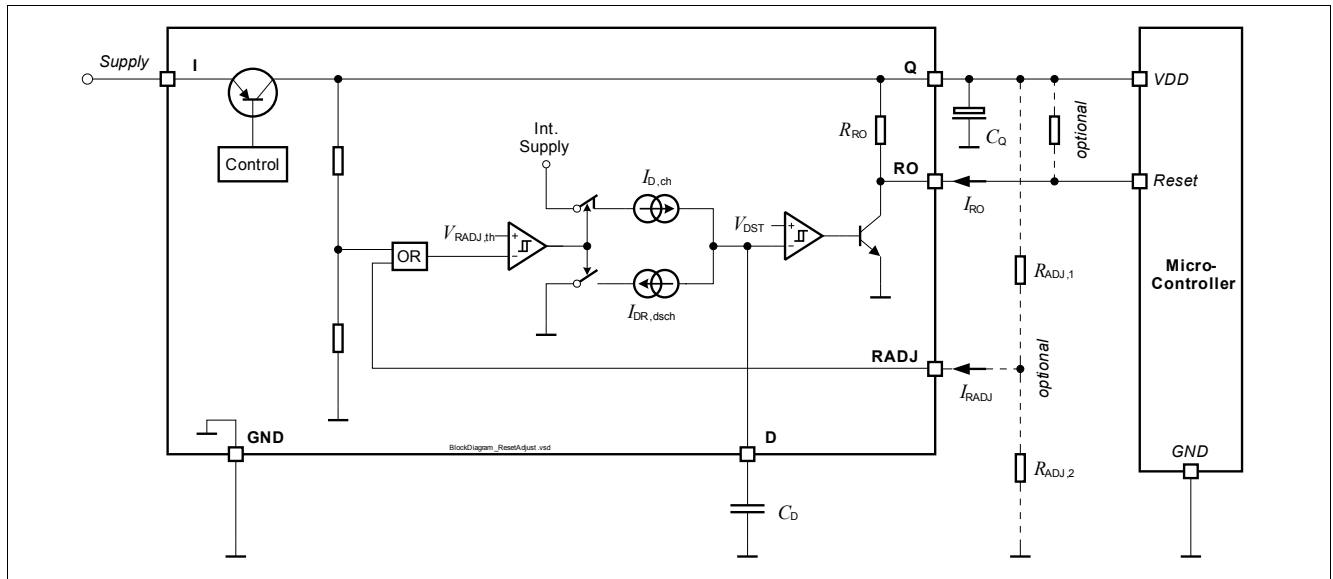

Figure 7 Block Diagram Reset Circuit
- $R_{ADJ,1}$, $R_{ADJ,2}$: Resistors of the external voltage divider, see Figure 7.
all voltages with respect to ground, direction of currents as shown in Figure 7 (unless otherwise specified).